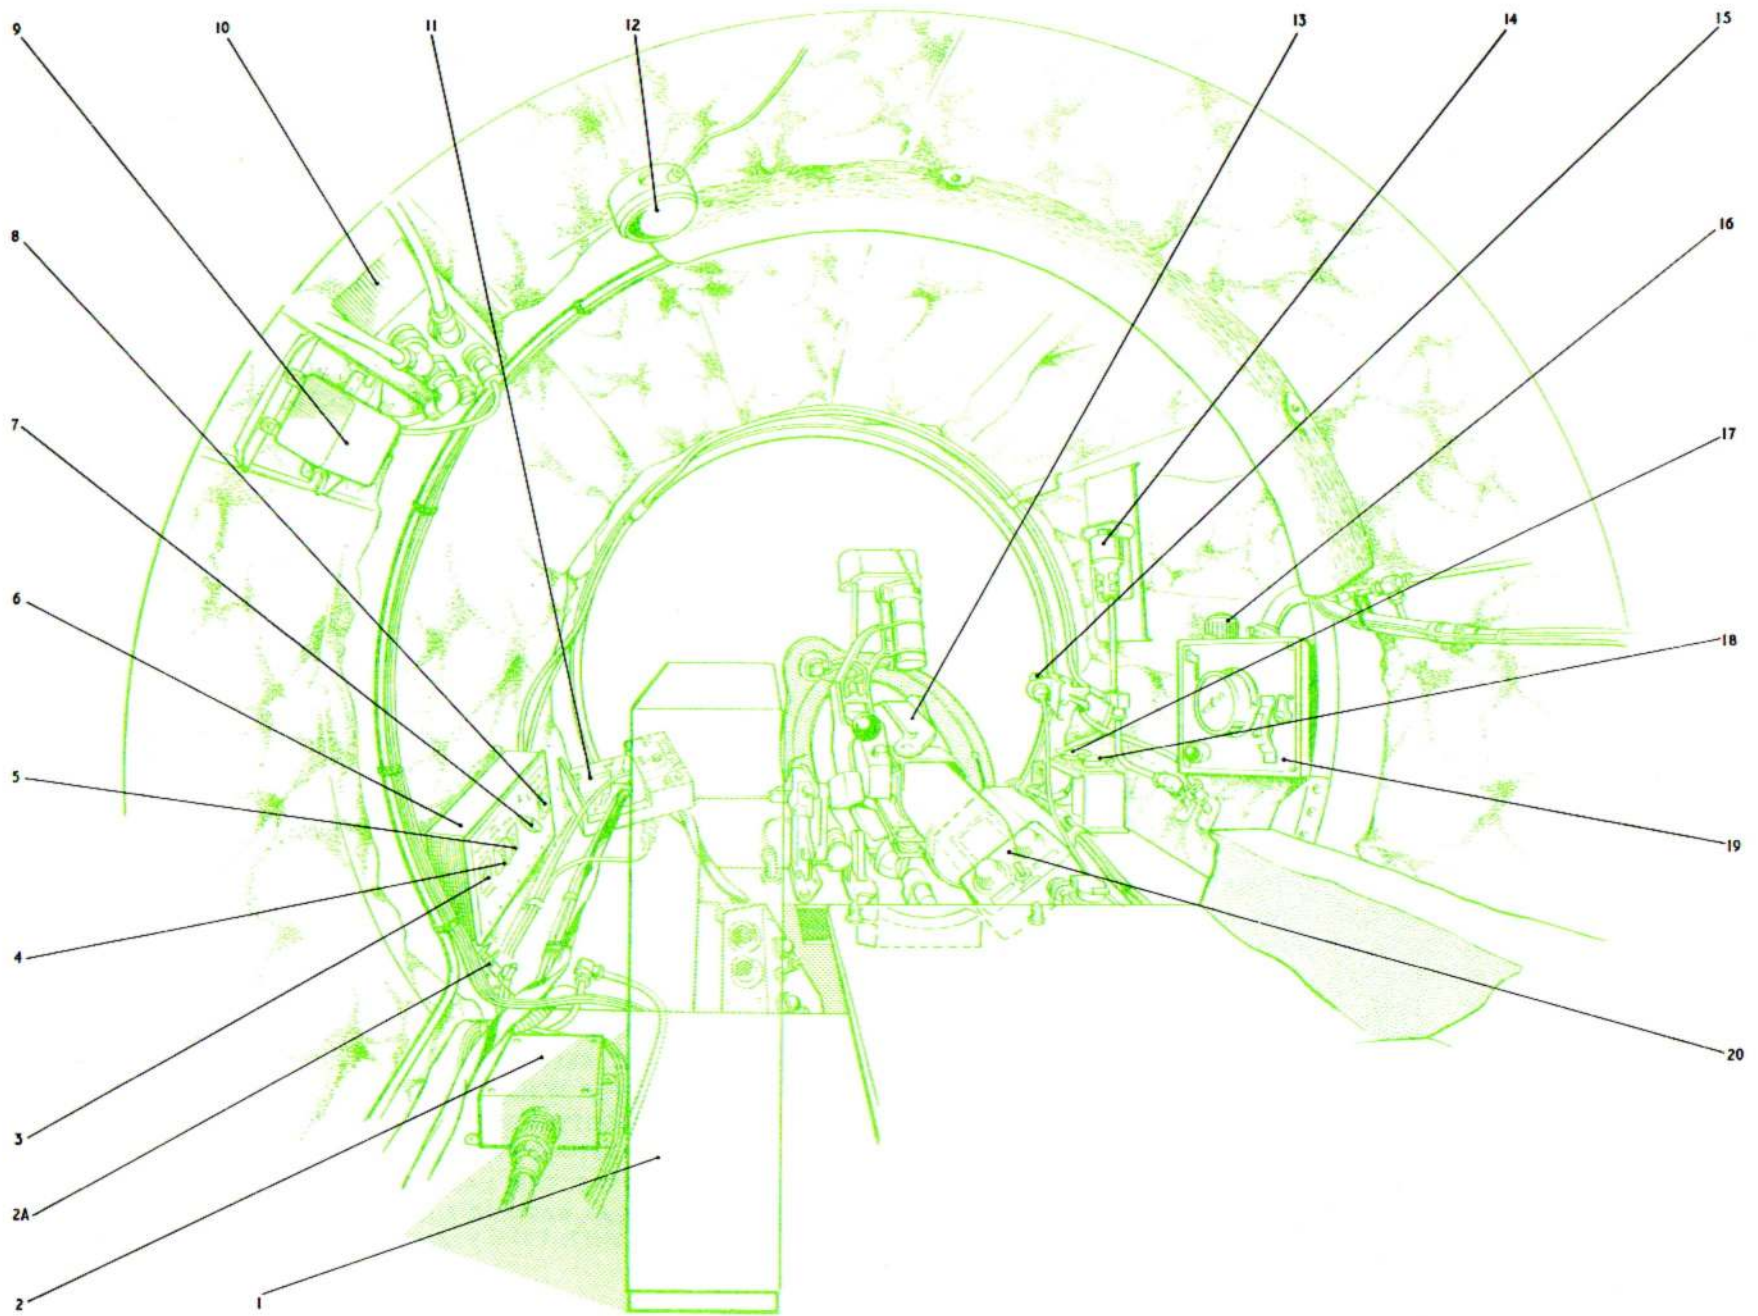

Fig.3. Air bomber's forward station (B(I) Mk.6 aircraft)
**KEY TO FIG.3 (AIR BOMBER'S FORWARD STATION – B (I) MK.6 AIRCRAFT**